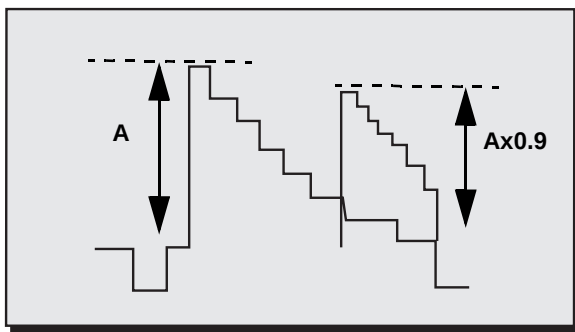

Figure 27. Waveform
3. In the Service Mode, select the DAC adjustment (P03) for PIP Sub-contrast so that child (PIP) level is 90% of parent (MAIN) signal (See Fig. 27)